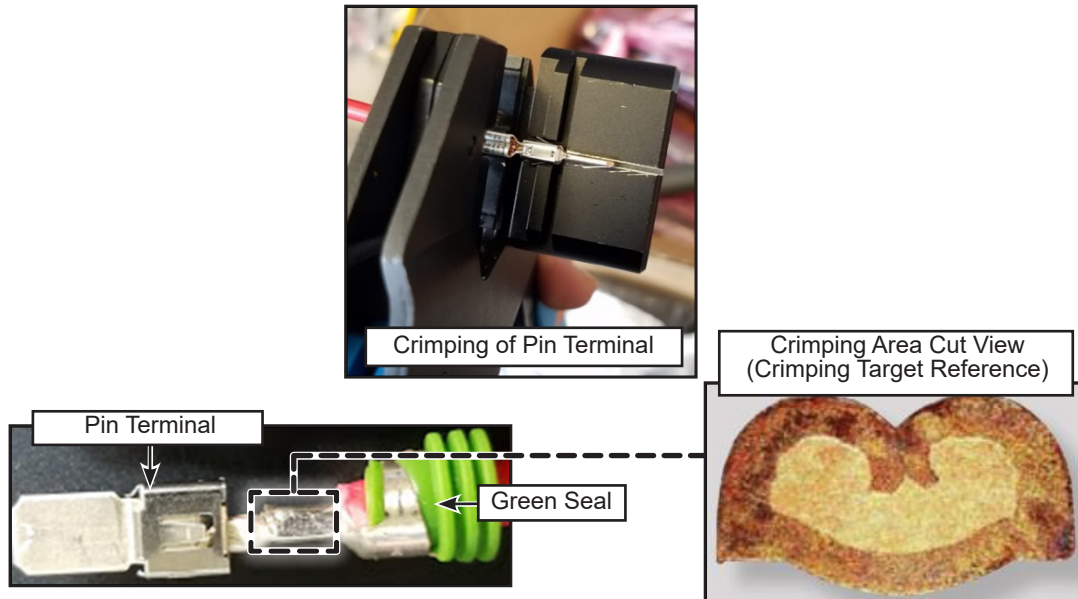

Figure 14 - TE Connectivity HDSCS Pin Terminal and Green Seal
- 1.23. Using the HDSCS crimping tool (see figure 7), crimp the pin terminal PN N97874-02 with the green seal PN N77238 on both RED and BLACK power wires (see figure 14). Refer to the figure below showing a typical HDSCS terminal crimp example and to Annex 1 for more information about the HDSCS connectors terminal crimping quality guidelines.